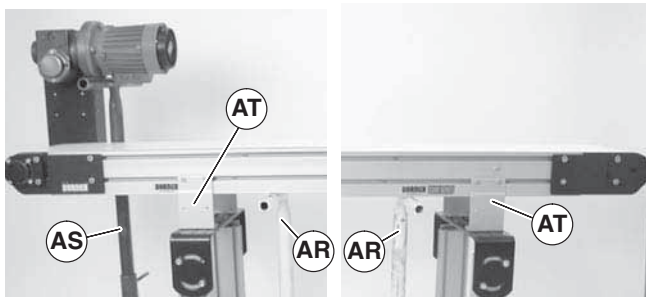
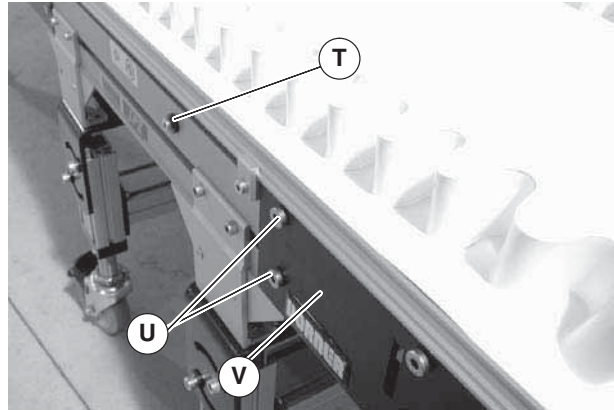

Figure 21
Figure 22
- On tension end of the conveyor, identified by the pinion locking screw (Figure 21, item T), push in head plate assembly (V): Loosen the pinion locking screw (T), adjust the pinion torque screw (Figure 22, item W). On both sides of conveyor, loosen the two tail clamp bolts (Figure 21, item U), and push head plate assembly (V) inward.